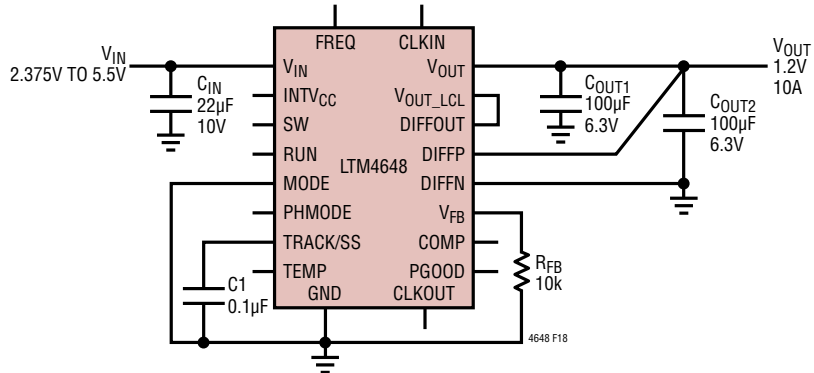

Figure 18. 2.375V to 5.5VIN, 1.2V at 10A Design
**Table 3. Output Voltage Response vs Component Matrix (Refer to Figure 18) 0A to 5A Load Step Typical Measured Values**